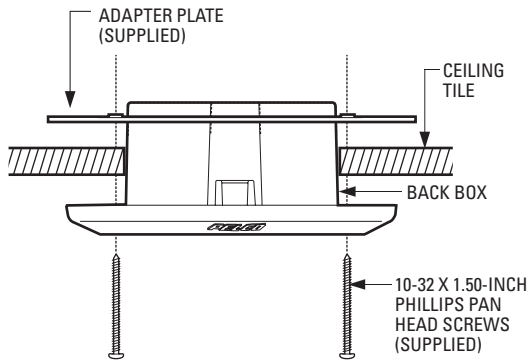
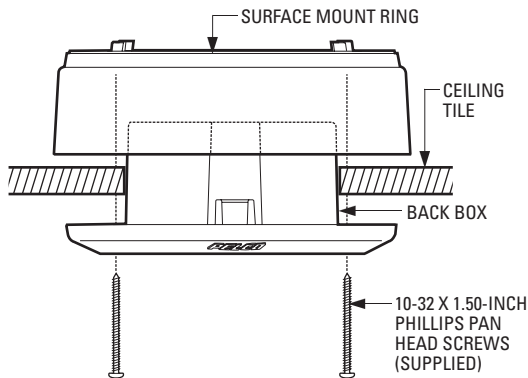
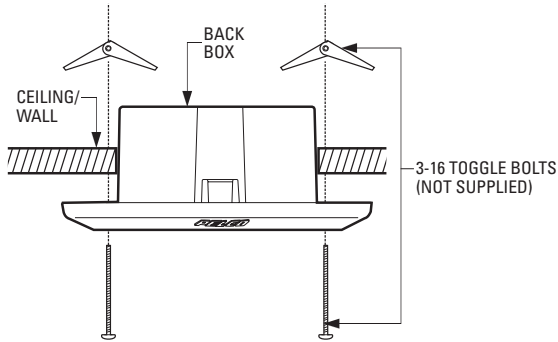

Figure 6. Ceiling Tile Installation with Adapter Plate
Figure 7. Ceiling Tile Installation with Surface Mount Ring
Figure 8. In-Ceiling Installation to a Fixed Ceiling/Wall
3. Mount the unit to the ceiling tile (refer to Figure 6 and Figure 7):
- To mount with the adapter plate, place the adapter plate on the inside of the ceiling tile (refer to Figure 6).
- To mount with the surface mount ring, turn the ring upside down and place it on the inside of the ceiling tile (refer to Figure 7).
2. Cut a hole 4 inches (10 cm) in diameter in the ceiling/wall (refer to Figure 8 on page 14).
- If you have access behind the ceiling/wall (refer to Figure 6 on page 12):
- (1) Place the adapter plate on the inside of the ceiling/wall.
- (2) Attach the back box to the ceiling/wall. Use the two supplied 10-32 x 1.50-inch Phillips pan head self-tapping screws.
- If you do not have access behind the ceiling/wall access, use 3-16 toggle bolts (not supplied) (refer to Figure 8).